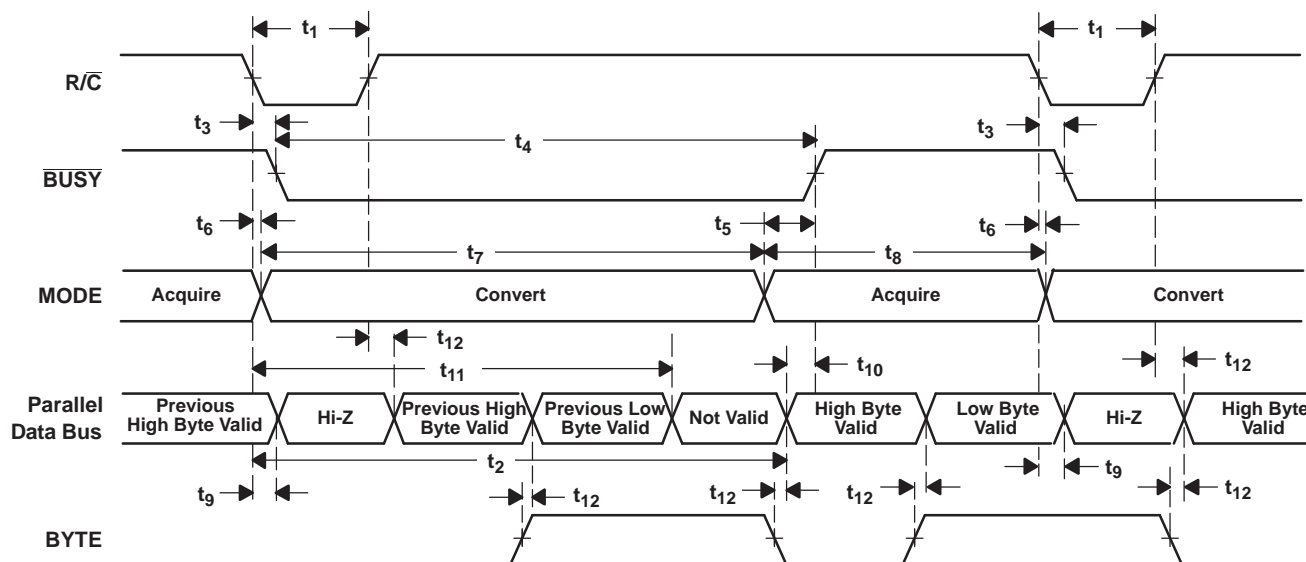
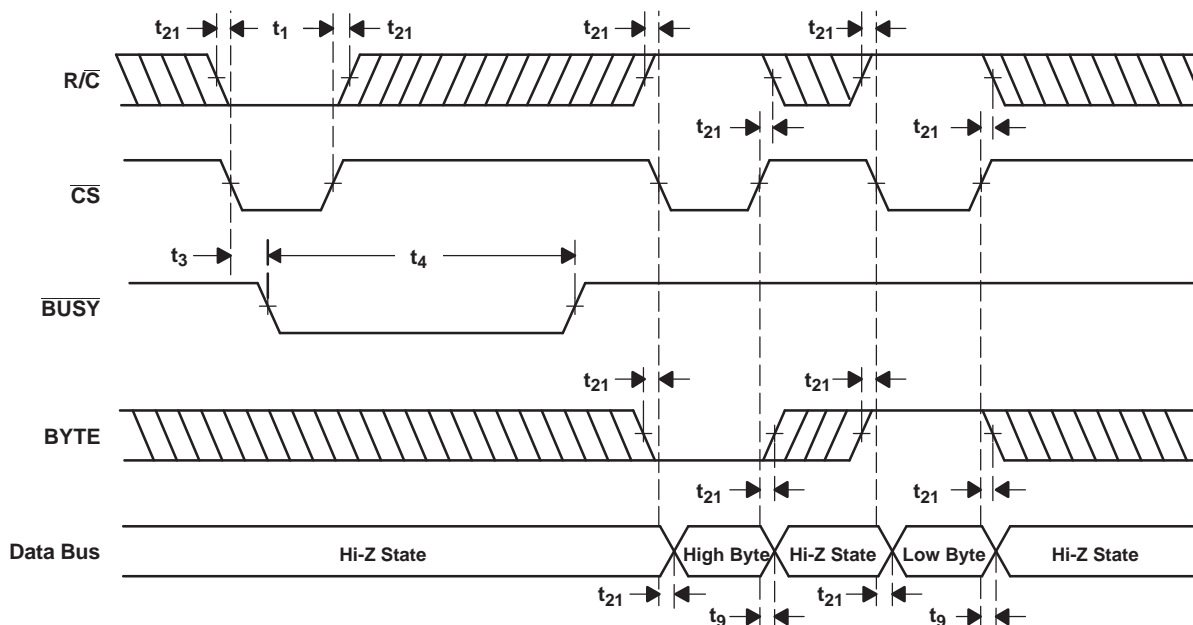

Figure 30. Conversion Timing With Parallel Output ($\overline{\text{CS}}$ and DATACLK Tied Low, EXT/INT Tied High)
Figure 31. $\overline{\text{CS}}$ to Control Conversion and Read Timing With Parallel Outputs
The ADS8517 begins tracking the input signal at the end of the conversion. Allowing 5 μs between convert commands assures accurate acquisition of a new signal. Refer to Table 2 and Table 3 for a summary of $\overline{\text{CS}}$, $\text{R}/\overline{\text{C}}$, and $\overline{\text{BUSY}}$ states, and Figure 30 through Figure 36 for timing diagrams.
(1) See Figure 30 and Figure 31 for constraints on data valid from conversion $N-1$.
After conversion N is completed and the output registers have been updated, $\overline{\text{BUSY}}$ (pin 24) goes high. Valid data from conversion N are available on D7-D0 (pin 9-13 and 15-17). $\overline{\text{BUSY}}$ going high can be used to latch the data. Refer to Table 5, Figure 30, and Figure 31 for timing specifications.
After conversion N has been initiated, valid data from conversion $N-1$ can be read and are valid up to $2.2\ \mu\text{s}$ after the start of conversion N . Do not attempt to read data beyond $2.2\ \mu\text{s}$ after the start of conversion N until BUSY (pin 24) goes high; doing so may result in reading invalid data. Refer to Table 5, Figure 30, and Figure 31 for timing constraints.